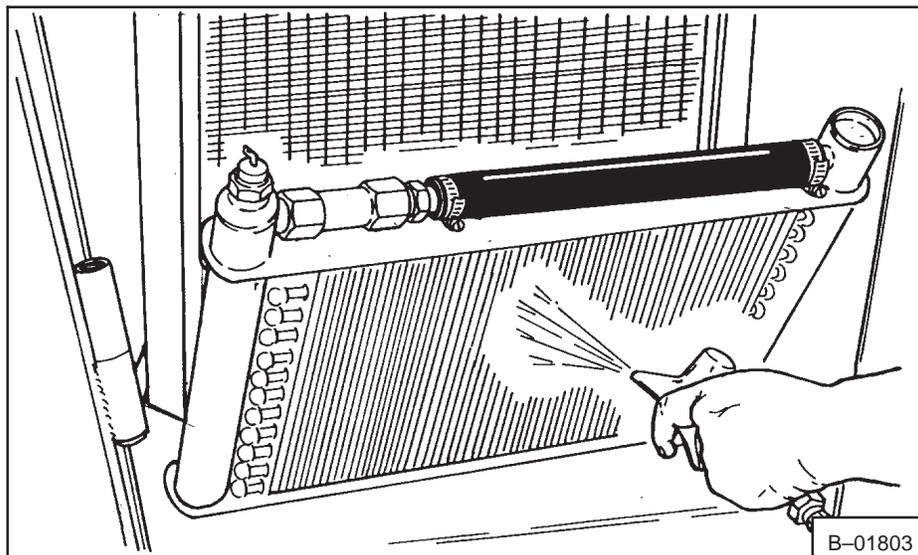

Fig. 1-33 Cleaning The Oil Cooler
2. Use an air nozzle or water spray and blow from the outside of the cooler (Fig. 1-33).